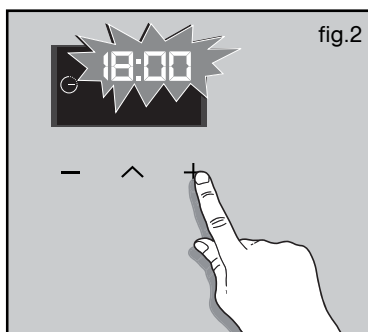

fig.2
- Press the + or - button to set the desired end time (fig. 2).